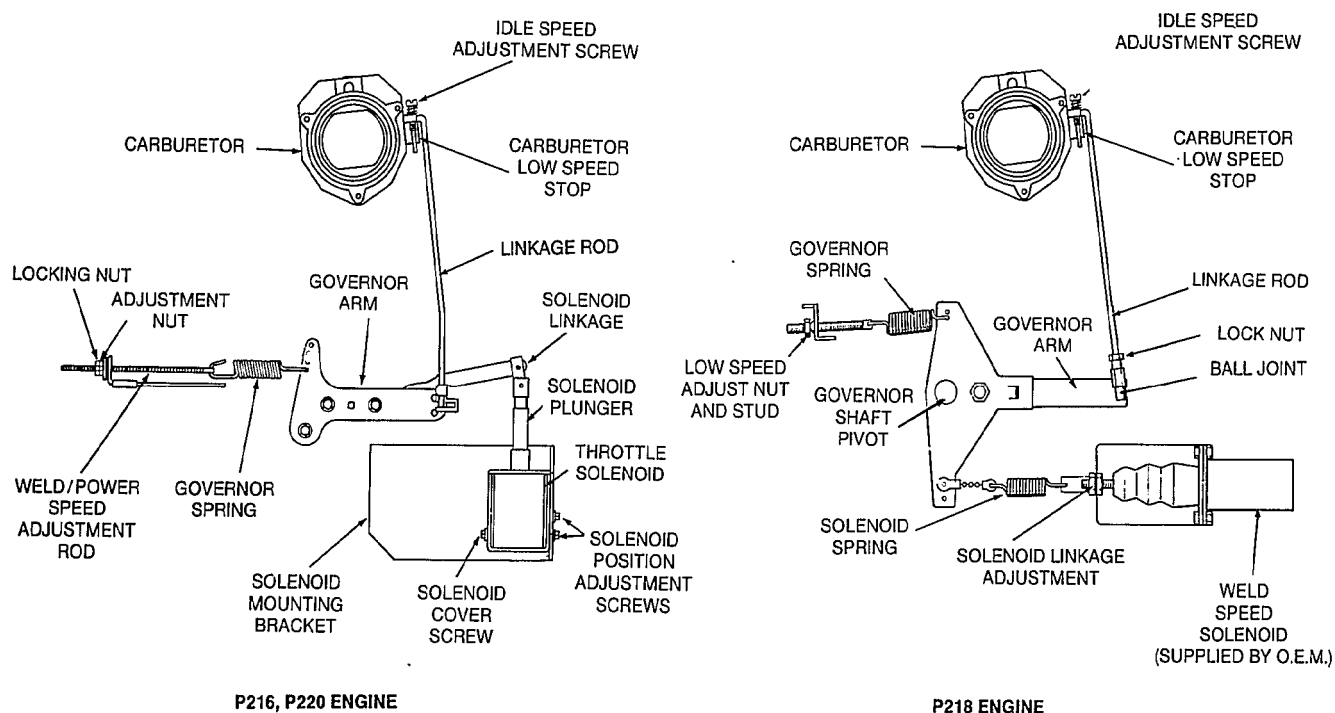

FIGURE 1. GOVERNOR LINKAGE
The governor linkage rod connects the governor arm (Figure 1) to the throttle shaft lever so they function properly when the engine starts and runs. The linkage rod is adjusted with the engine stopped and the throttle plate at wide open position. The engine will also crank and start in this condition.
6. Adjust low speed nut (Figure 1) on governor spring for a stable no load engine speed of 1860 rpm on 60 Hz models and 1650 rpm on 50 Hz models.
2. Loosen the two throttle solenoid position adjustment screws (Figure 1).